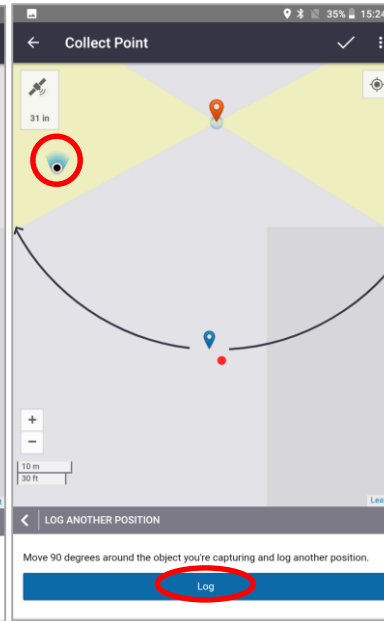

Figure 11
11. Move to one of the shaded areas, **Log** that position with the GNSS and **Fire** at the target again (Figure 11)